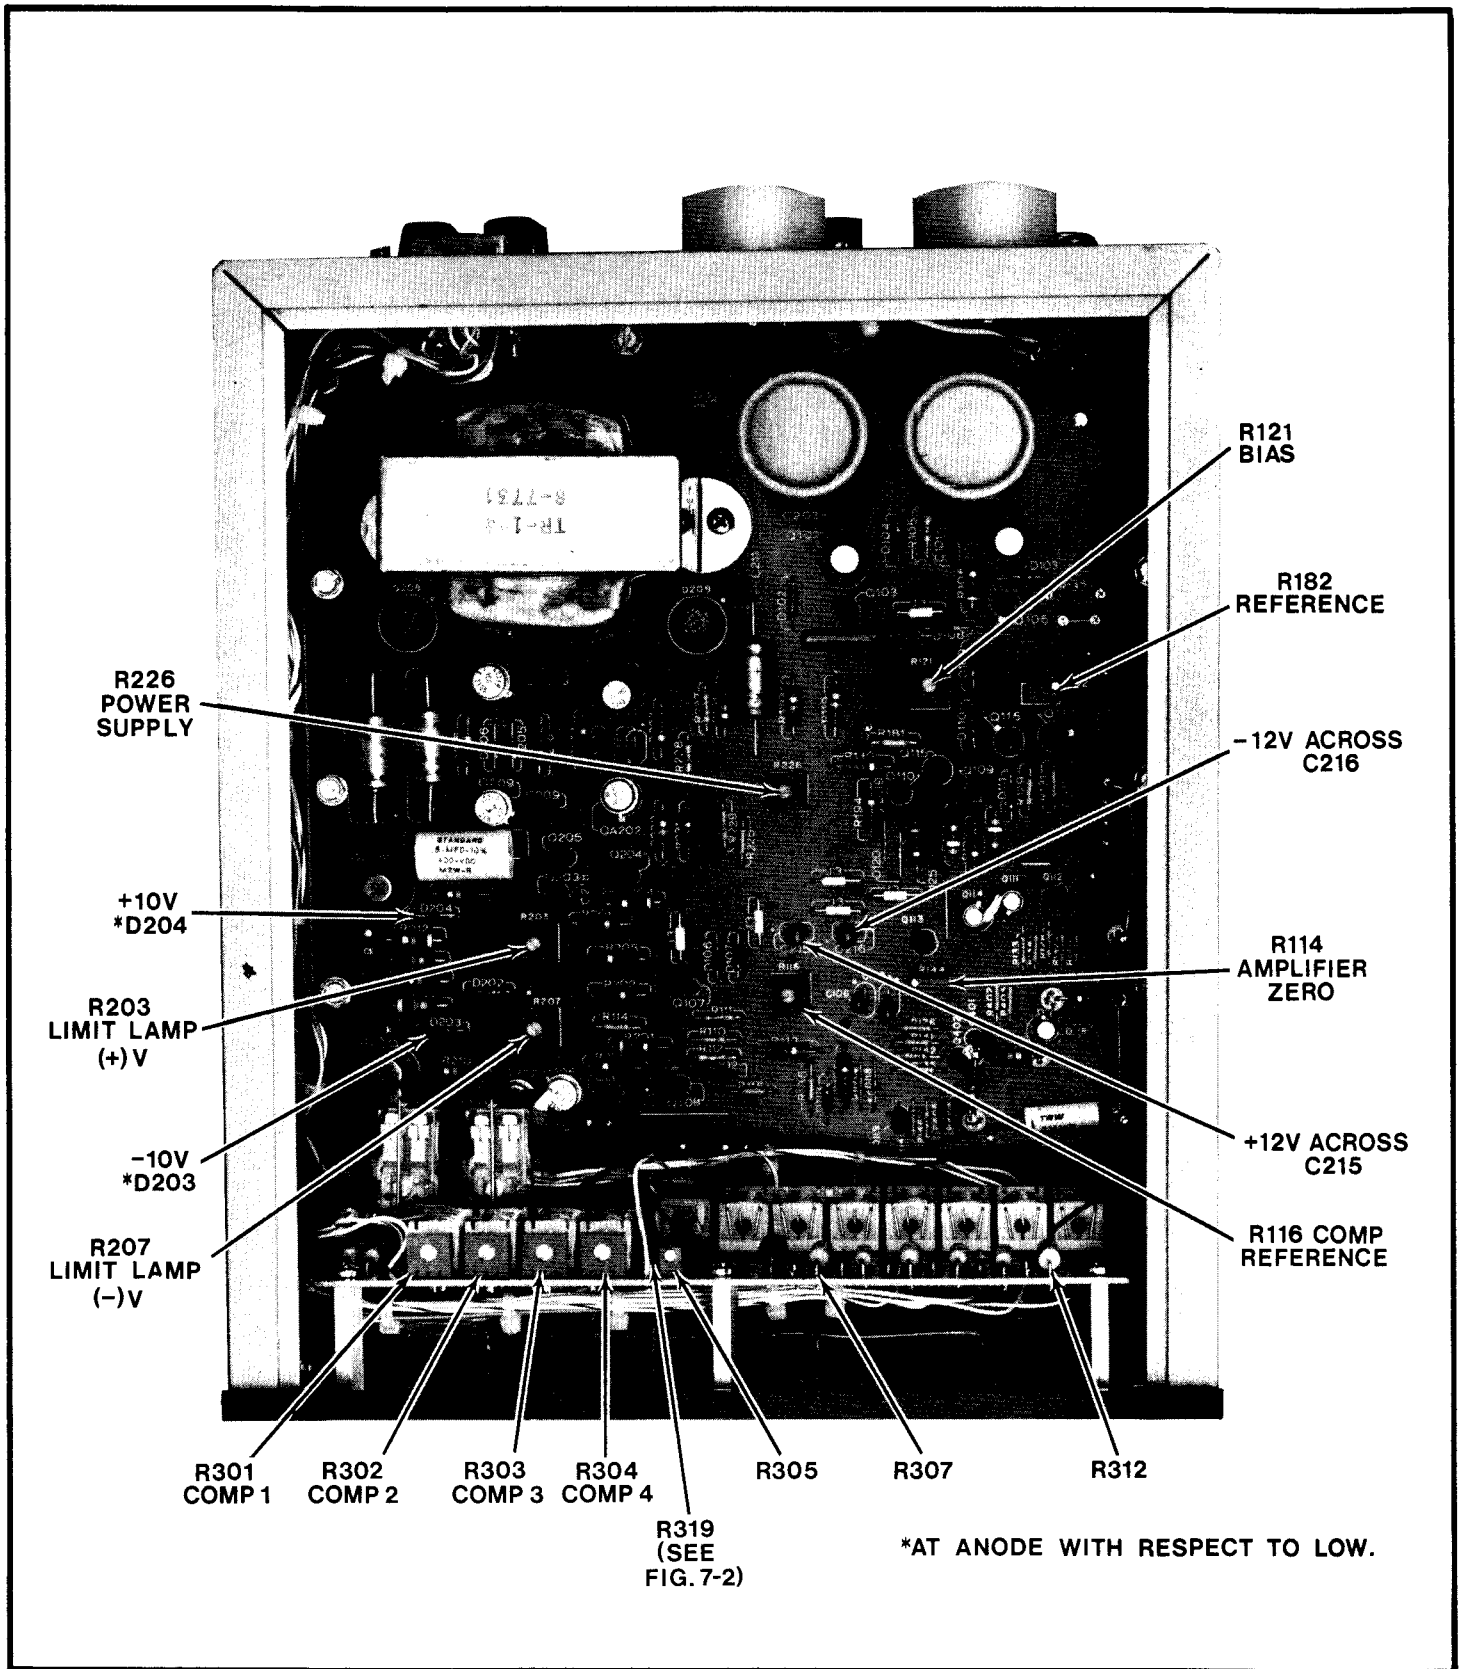

FIGURE 6-1. Chassis - Top View.
- a. Troubleshooting Guide. Refer to Figure 6-1 for voltages and test points.
6-3. CALIBRATION PROCEDURE. Refer to Table 6-1 for step-by-step procedures for calibrating this instrument. Refer to Figure 6-1 for testpoint and adjustment locations.